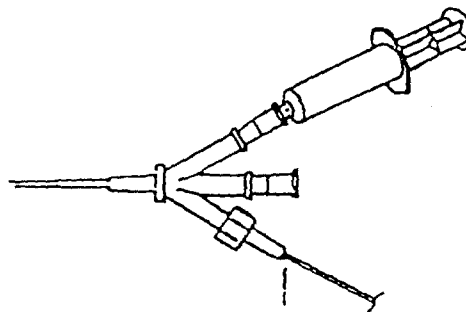

Figure 1
- c. Attach the syringe to the balloon leg of the triple arm adapter (see figure 1).